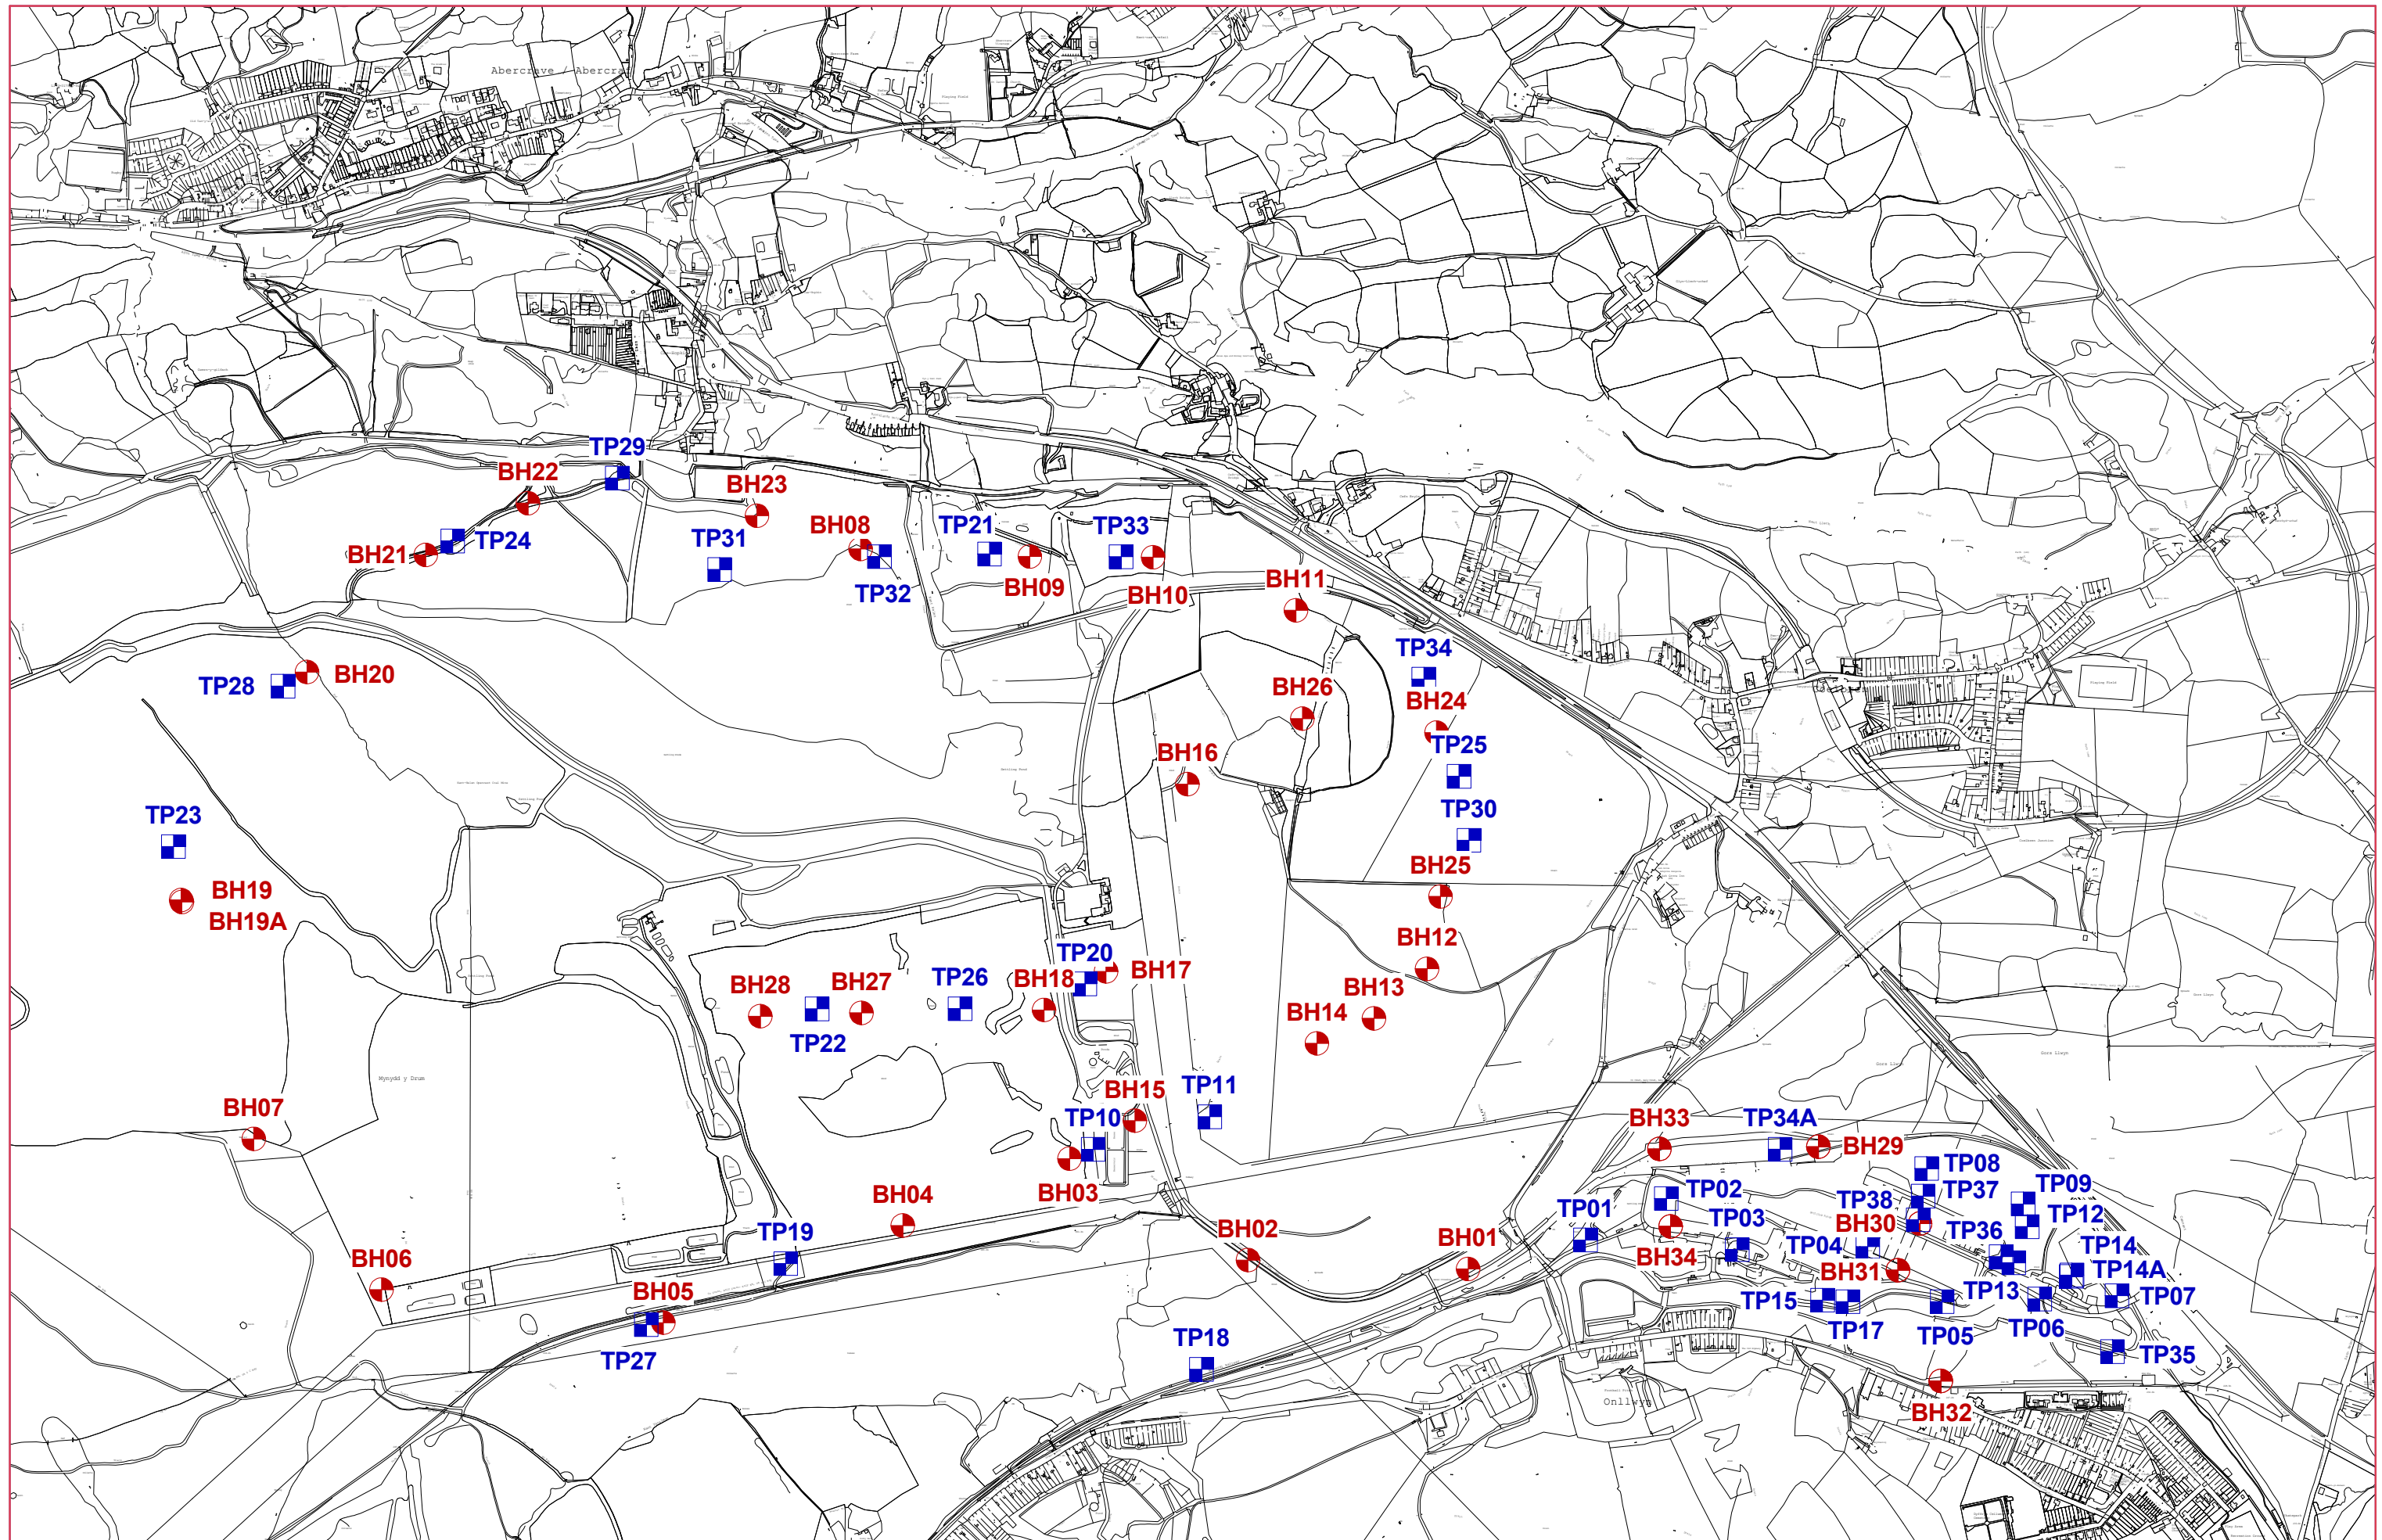

FIGURE 1
- **Figure 1: *Location Plan***